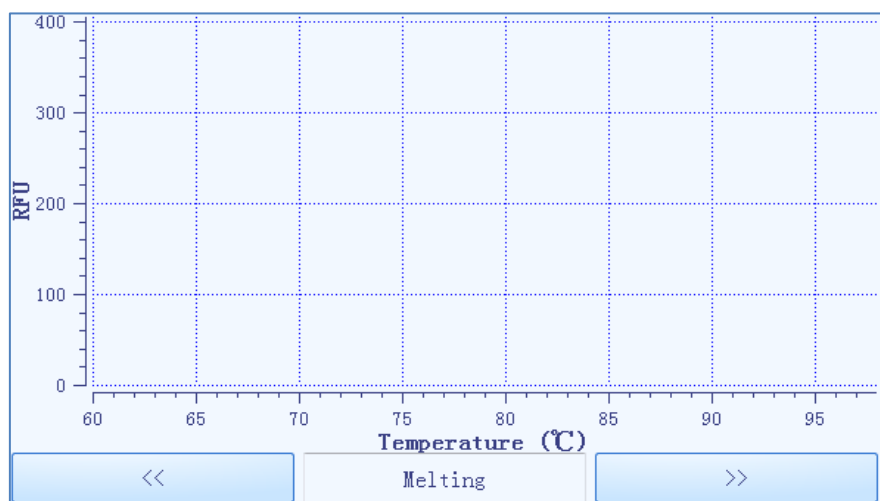

Figure E-4.2. Run Monitoring Diagram - Real-time Melting Curve
- b. User can press  key below the run monitoring diagram to monitor the real-time **Melting** curve of the current experiment, as shown in figure E-4.2.